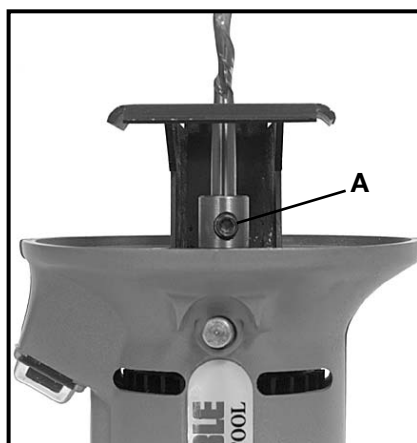

Fig. 3
1. Clean and insert a bit shank into the Cutout Tool spindle (see Fig. 3). The bit shank must extend at least $\frac{1}{2}$ " into the spindle.
3. Firmly tighten screw (A) Fig. 3.